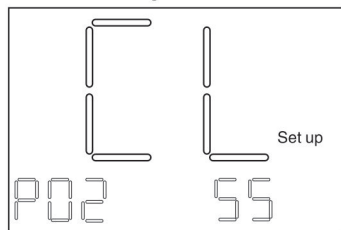

figure 6
3. Close direction (default: clockwise) The display interface in the direction of closure is shown in Figure 6: "CL" is displayed in the half of the screen, and internal control parameters are displayed in the lower left corner. The label "P02"; the lower right corner shows "sS" (clockwise Pinyin). Abbreviations) and "nS" (anti-clockwise Pinyin abbreviation). At this point, the "sS" and "nS" are performed by the up and down keys of the remote control. "NS" switch, after modification, press the setting key of the remote control to confirm.